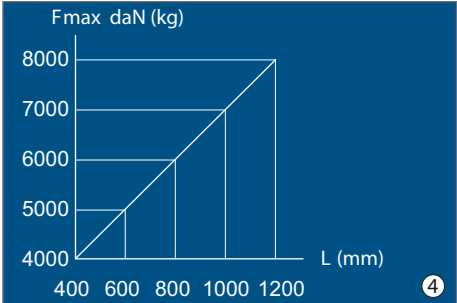

Fig. 152 Chart: Permissible load
The permissible simultaneous load of VarioFix and standard lashing points is dependent on the actual distances (L) between VarioFix lashing points (see Fig. 152).